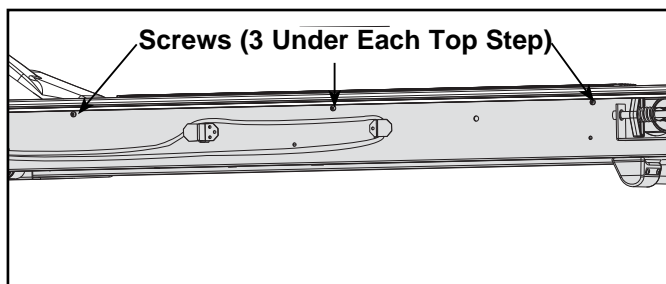

Figure 4
- A. Using a Phillips screwdriver, remove the three screws that hold each top step in place. See Figure 4.
- A. Place each top step in position. See Figure 4.
- B. Using a Phillips screwdriver, tighten the three screws that hold each top step in place. See Figure 4.